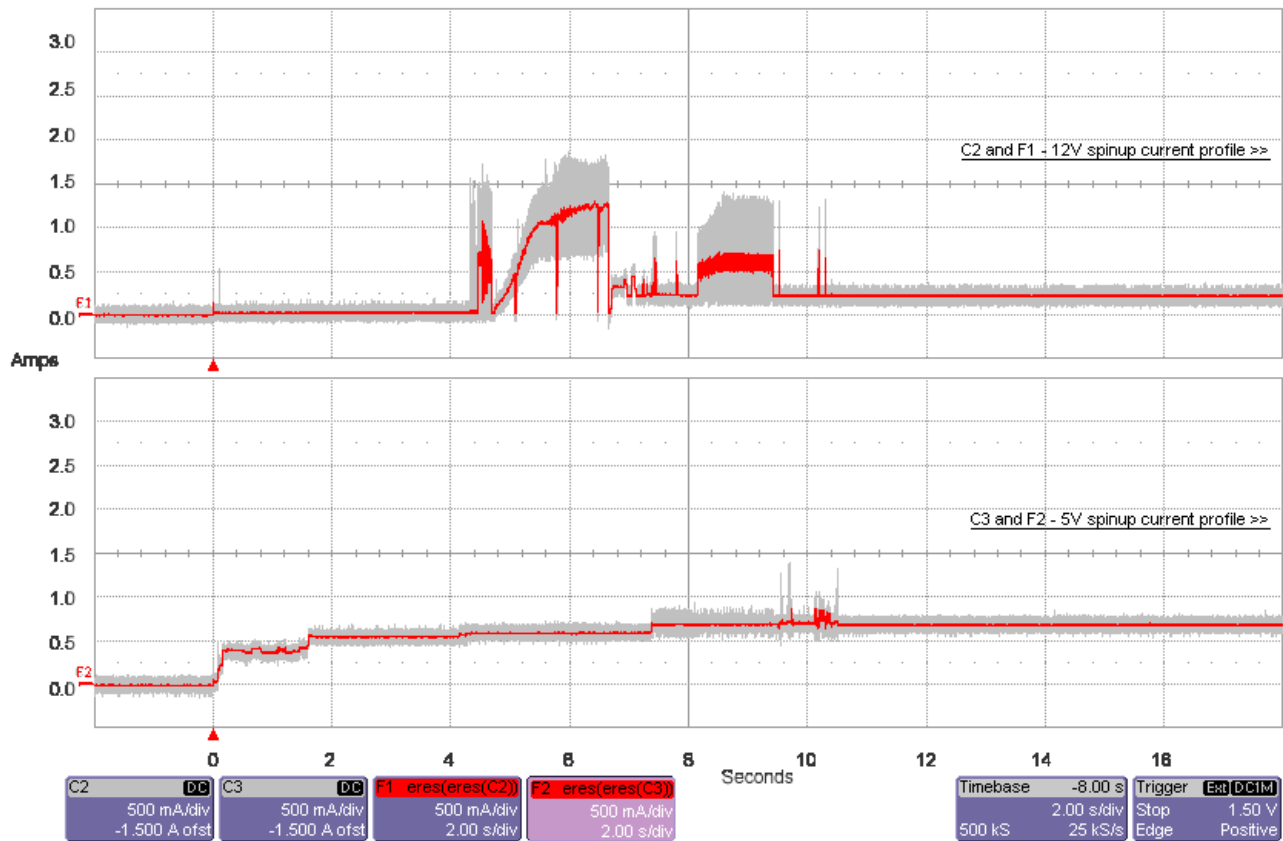

Figure 1. Typical ST973451SS current profile
- [3] See +12V current profile in Figure 1.